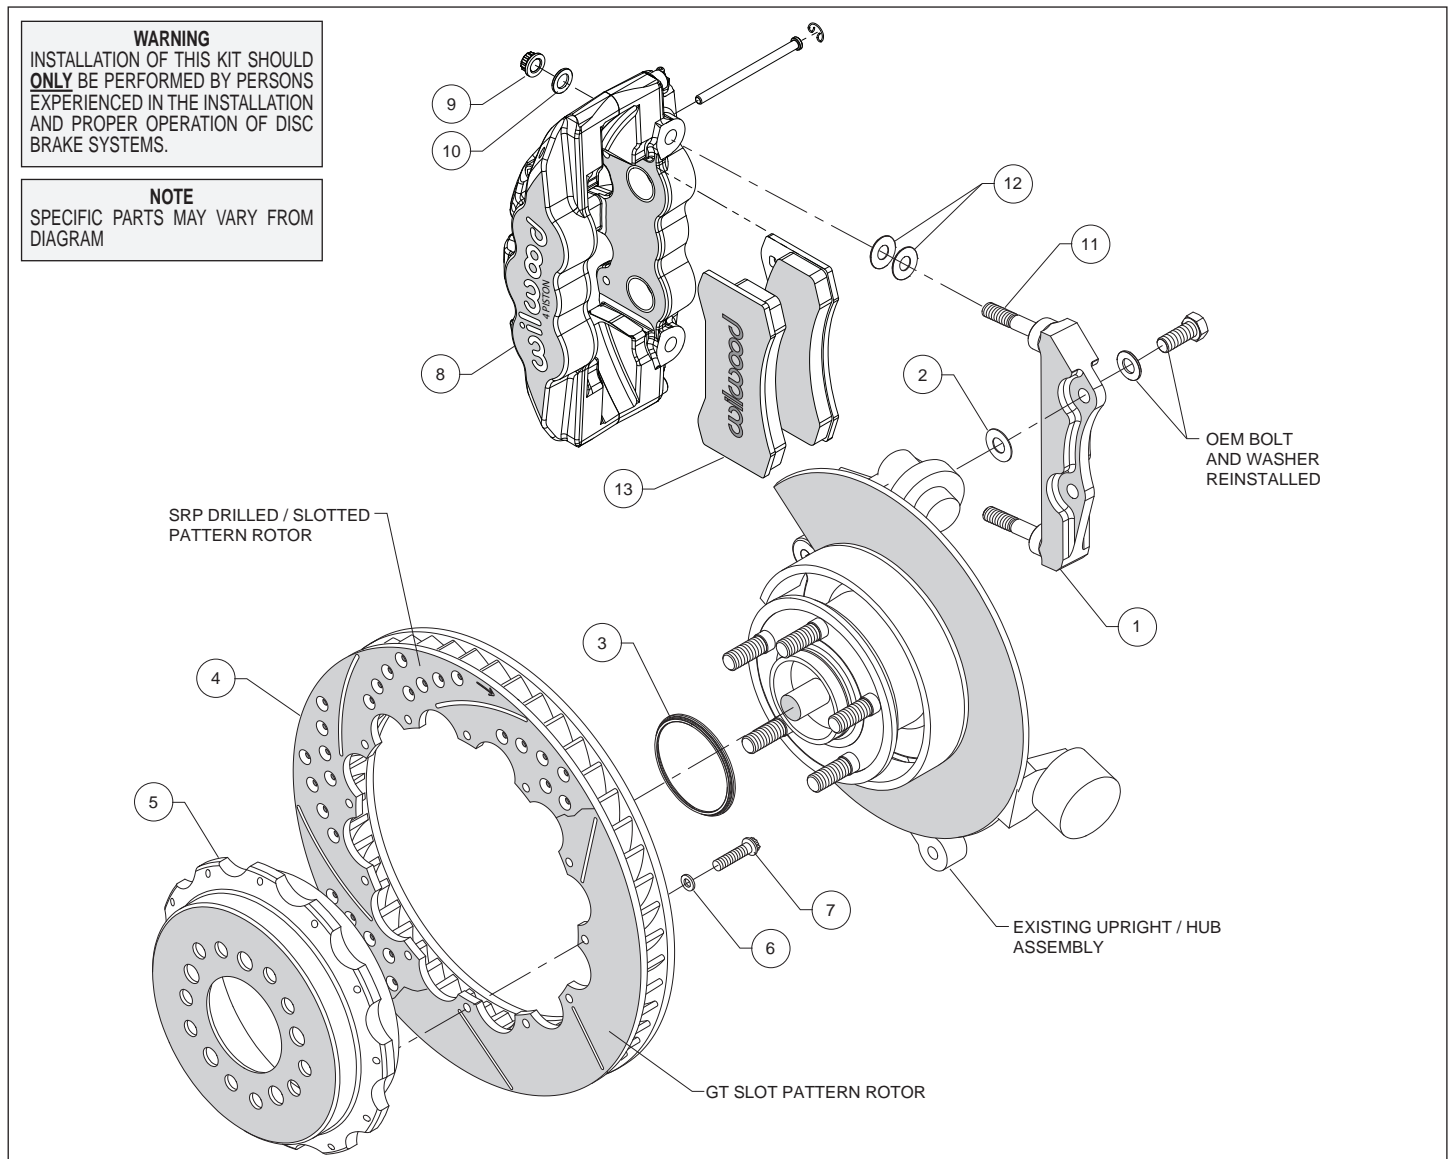
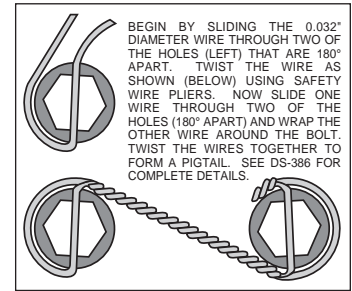

Figure 1. Typical Installation Configuration
Figure 3. Safety Wire Diagram
**Assembly Instructions** (numbers in parenthesis refer to the parts list and Figure 1 on the preceding pages):
- The caliper mount bracket (1) should initially be installed with clean, dry threads on the mounting bolts. Orient the bracket as shown in Figure 1 and install using the saved OEM caliper mount bolts and washers. Initially place one .033" thick shim (2) on each bolt between the bracket and upright, Figure 1. Temporarily tighten the mounting bolts. **NOTE: The bracket must fit squarely against the mount bosses on the upright.** Inspect for interference from casting irregularities, machining ridges, burrs, etc. Later, after the caliper alignment has been checked, the mount bolts will be secured using red *Loctite*® 271.
- Orient the rotor (4) and the hat (5) as shown in Figure 1 and Photo 1. Attach rotor to hat using bolts (7) and washers (6). Using an alternating sequence, apply red *Loctite*® 271 to the threads and torque bolts to 155 in-lb. For an added measure of security, the bolts may be safety wired using standard 0.032 inch diameter stainless steel safety wire as shown in Figure 3.
- Slide the rotor registration adapter (3) onto the axle register on the axle hub with the smaller O.D. facing outward, Photo 2. Slide the hat/rotor assembly onto the axle hub. **NOTE: The hat must fit flush against the axle hub flange or excessive rotor run out may result.** Install three lug nuts (finger tight) to keep the hat/rotor assembly in place while continuing with the installation.
- Lubricate the caliper mounting studs (11) with lightweight oil. Initially place two .030" thick shims (12) on each stud between the caliper and the bracket, as shown in Figure 1 and Photo 3. Mount the caliper (8) onto the bracket (1) using lock nuts (9) and washers (10), Figure 1. Temporarily tighten the lock nuts and view the rotor through the top opening of the caliper. The rotor should be centered in the caliper, Photo 4. If not, adjust by adding or subtracting shims (2) between the bracket and the upright. Always use the same amount of shims on each of the two mounting bolts. Once the caliper alignment is correct, remove the bracket mounting bolts one at a time, apply red *Loctite*® 271 to the threads, and torque to 65 ft-lb.
- Remove the two pad retaining pins from the caliper (8) by carefully popping out the pin retaining clips and sliding out the pins. Insert the brake pads (13) into the caliper from the bottom, Figure 1 and Photo 5. With the friction material facing the rotor, secure the brake pads in place with the pad retaining pins and clips, Photo 6. Reinstall the caliper onto the caliper mounting bracket and temporarily tighten the lock nuts. Check that the top of the brake pad is flush with the outside diameter of the rotor, Photo 8. If not, adjust by adding or subtracting shims (12) between the caliper and the bracket. After the caliper pad height is set, torque the caliper lock nuts (12) to 47 ft-lb.